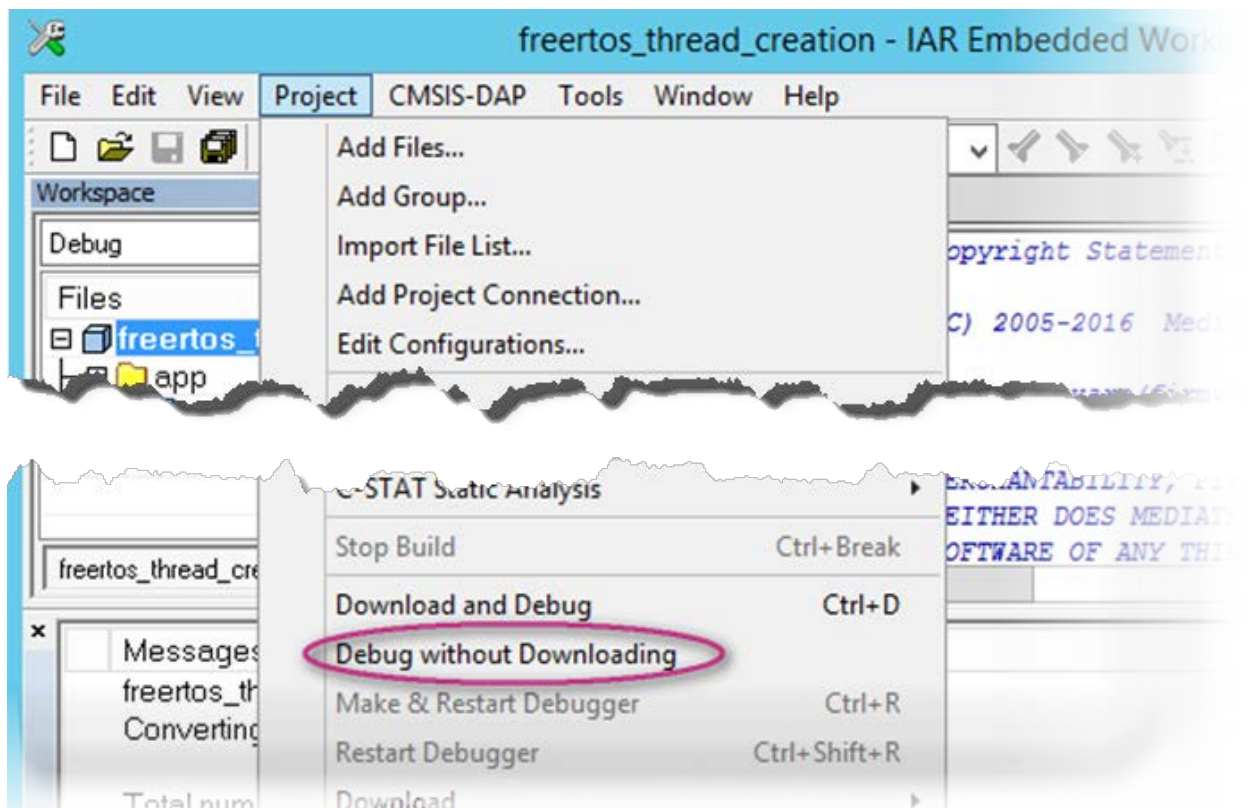

Figure 71. Debugging the project without downloading
- 5) Navigate to **Project**, and click **Debug without Downloading**, as shown in Figure 71.